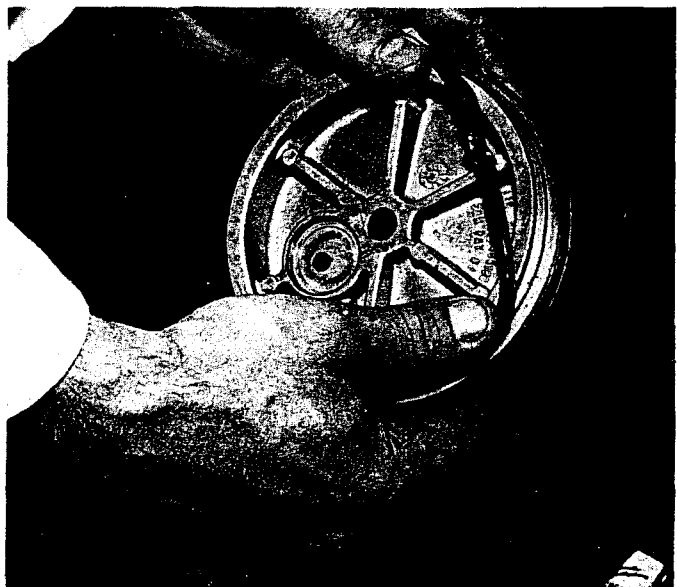

Figure 6 DESICCANT SEALING PLATE
5. Thoroughly lubricate the two new O-rings and install them in their respective grooves in the purge plate (Figure 6).